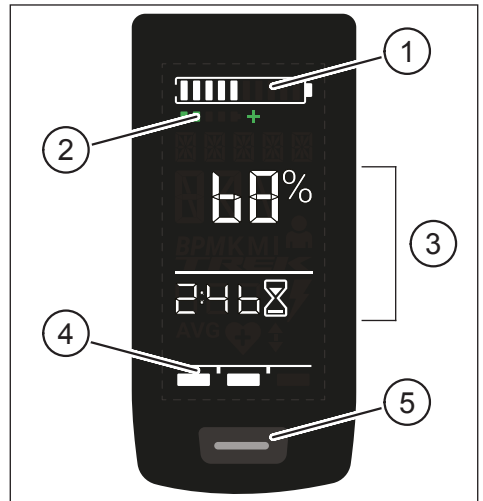
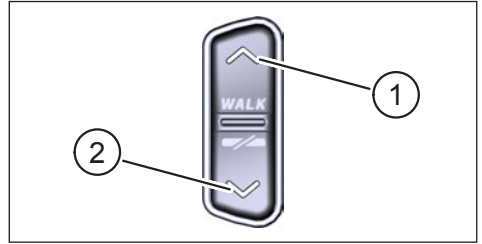

Fig. 1: Operation and indicator components on Display
Fig. 2: Operation on the Remote
### Pos. in Fig. 1 Description
Pos. in Fig. 2	Description
- ▶ Press and hold the button on the Display (pos. 5 in Fig. 1) and the DOWN button on the Remote (pos. 2 in Fig. 2) for at least 5 seconds.
- ▶ With a **short** press on the button on the Display (pos. 5 in Fig. 1) you switch to the next screen view.
- Press the DOWN button on the Remote control (pos. 2 in Fig. 2).